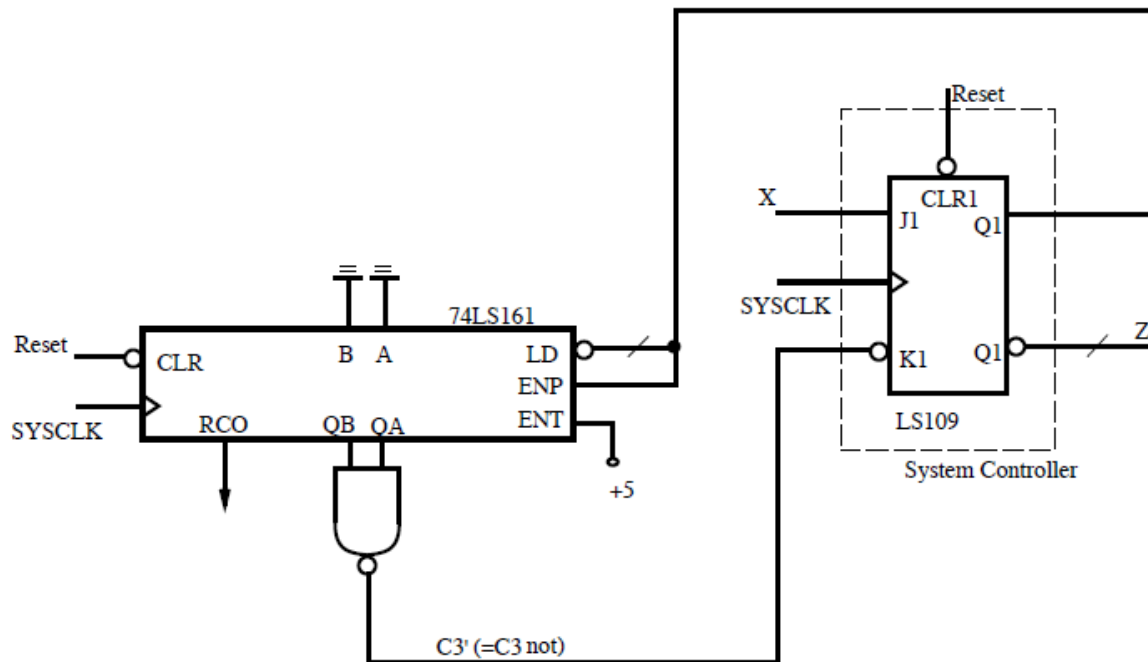

Figure 2: Sequential circuit with System Controller, 74LS161 counter, and combinational logic.
4.2 Figure 2 shows a sequential circuit consisting of a System Controller (labeled and outlined with a dashed box), one 74LS161 counter, and some combinational logic.